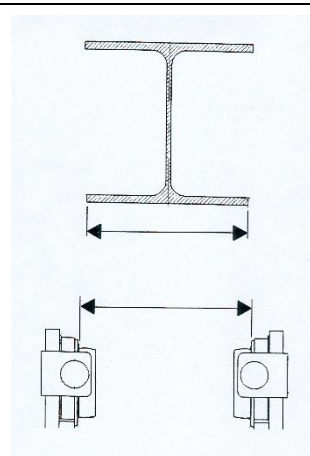

fig.20
- ° In the case of a jib crane with an arm with a section bar of laminated girder (H- or T-type), check the width of the flange of the girder which must correspond to that intended for the trolley wheels (fig. 20).